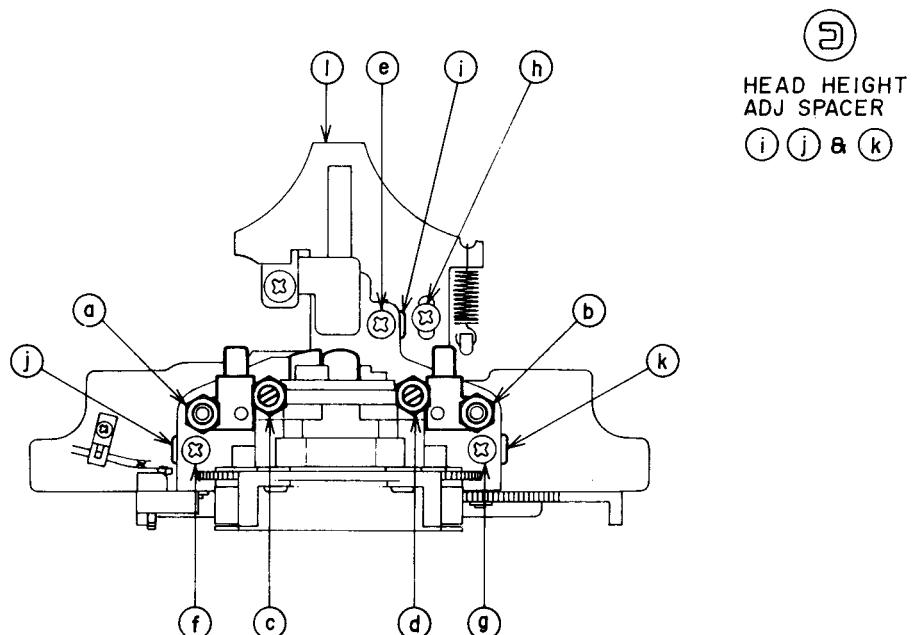

Fig. 6-2
- 2) Adjust the tape guides A and B by turning the tape guide height adjustment nuts **a** and **b** in Fig. 6-2, so that the tape runs smoothly by the lower edge of both tape guides, and the tape is not hitched by those tape guides.
6-4 HEAD BLOCK PROJECTION ADJUSTMENT (Refer to Figs. 6-2 & 6-3)